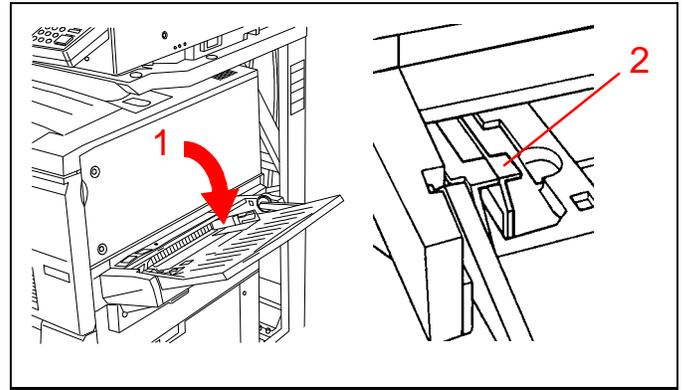

Figure 4
1. See Figure 4. Open the bypass tray by swinging the door down.